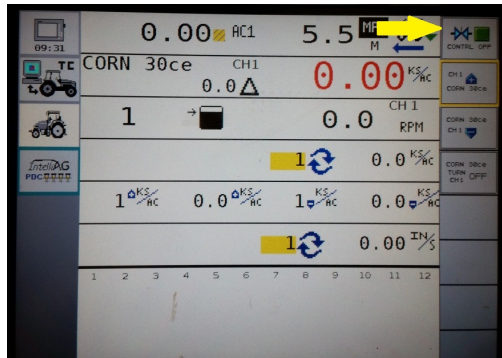

Figure 55
Step 10. Once you verify the drive is operating correctly, turn **Control Off**. (Figure 55)